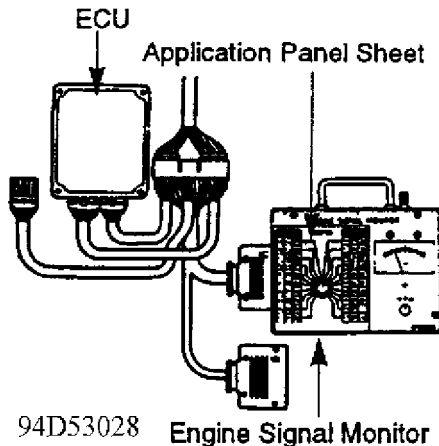

Fig. 1: Engine Signal Monitor and ECU
2. Connect SST (Engine Signal Monitor And Adapter) as shown in Fig. 1. Place application panel sheet on the Engine Signal Monitor.